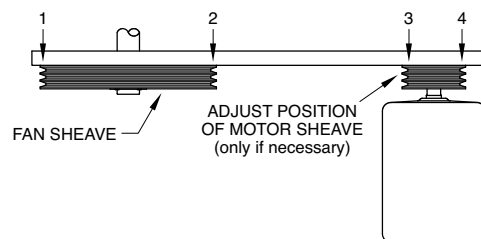

Figure 16 – Sheave Alignment Check
8. Measure to see that the top and bottom of the motor base are the same distance out from the casing of the unit. This should insure that the sheaves are properly aligned since they have been pre-set at the factory. As a final check, lay a straight edge from sheave to sheave. There should be four point contact. See Figure 16. Adjust the position of the motor sheave as necessary.